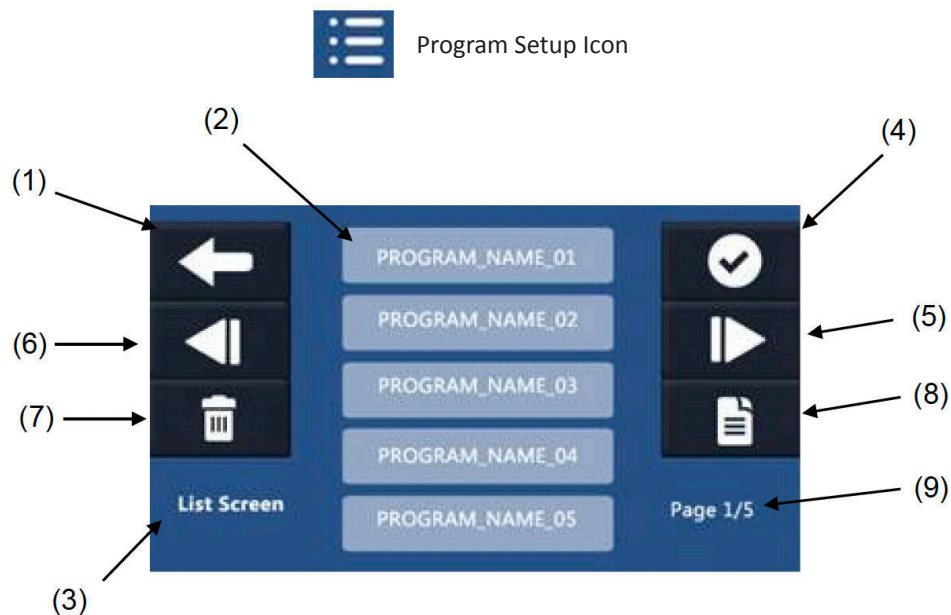

FIGURE 7
4.6 Program List Screen (Figure 7)